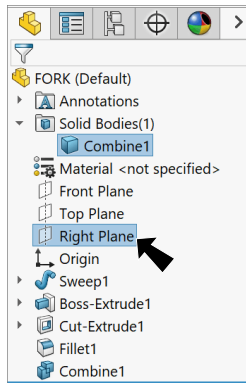

Fig. 28
Step 1. Expand Solid Bodies folder in the Feature Manager. **Ctrl click Combine1** body and **Right Plane** to select Body and Plane, **Fig. 28**.